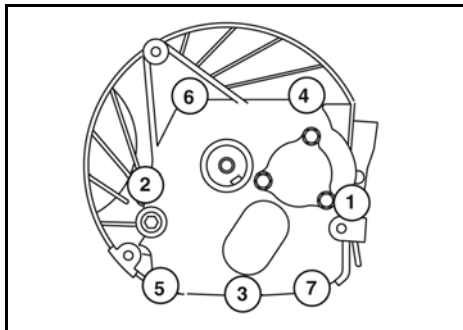
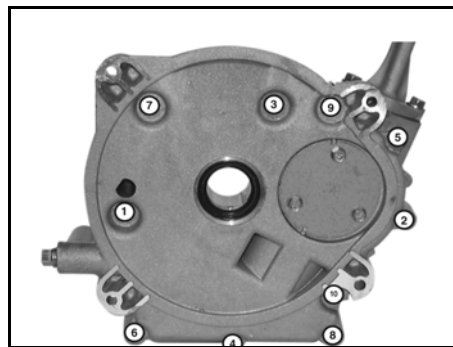

Figure 10
Figure 12
4. Place cylinder support tool (C, Figure 10) under cylinder or cover/sump bearing (B). Press driver until bearing is extracted.
- Figure 10 - Vertical shaft models 97700, 99700
- Figure 12 - Vertical shaft models 280000, 310000, 330000
NOTE: Screws assembled at position 4, Figure 10 and position 9, Figure 12 were coated with sealant. If sealant is missing, coat with a non-hardening sealant such as Permatex® 2, or equivalent.